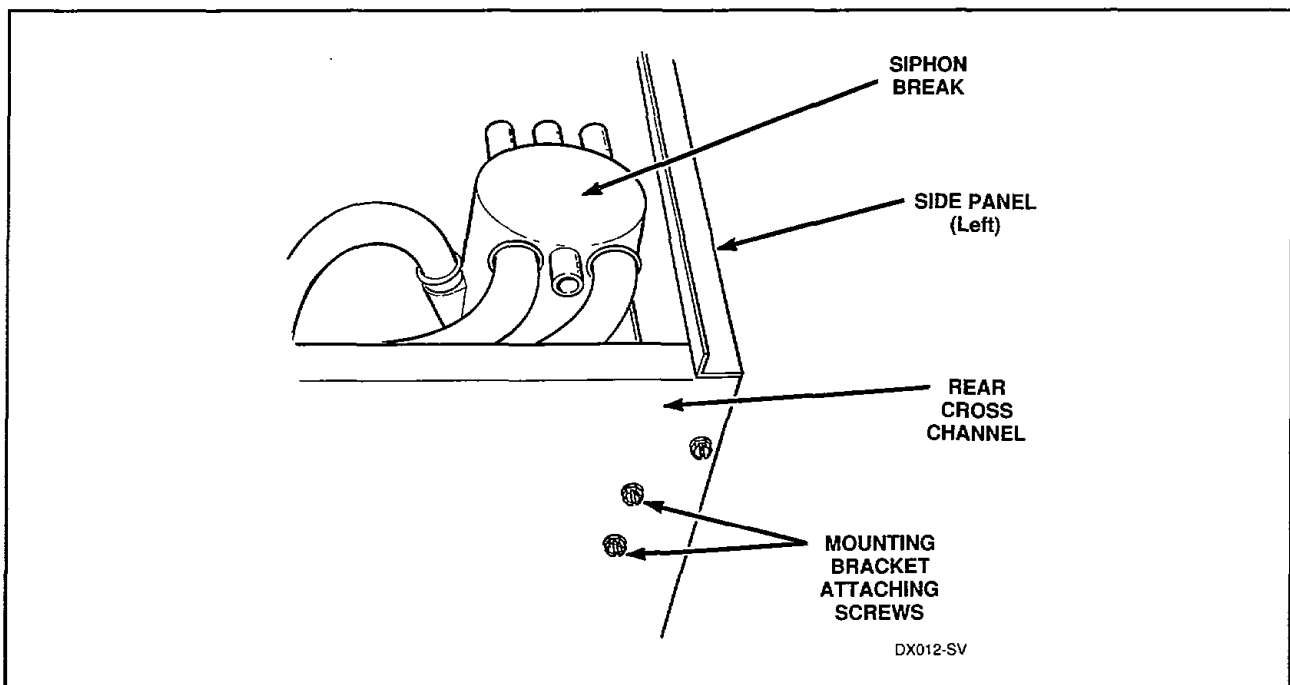

Figure 18
- c. Loosen hose clamps and disconnect hoses from siphon break, *Figure 18*.
- d. Remove two screws holding siphon break and bracket to rear cross channel, *Figure 18*, and remove siphon break out through top of washer.